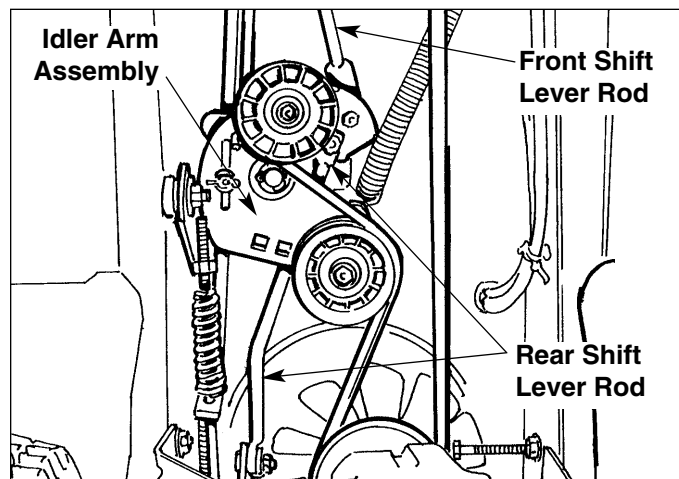

Figure B-17. Idler Arm Assembly Area - Underside Of Unit
3. Safely elevate and support unit (mower deck removed) for working access to idler arm assembly area and related shift linkage parts (Figure B-17)